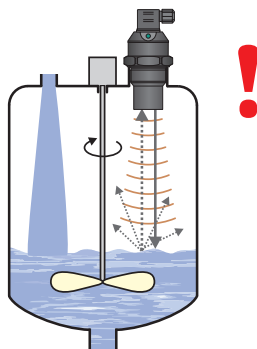

Fig. 10: Moderately stirred surface
- o) The ultrasonic signal can be scattered or attenuated if the surface is moderately stirred or rippled (due to a mixer, inflow of liquid, etc.). This may result in **reduction of the measurement range** or unreliable operation of the device (Fig. 10).